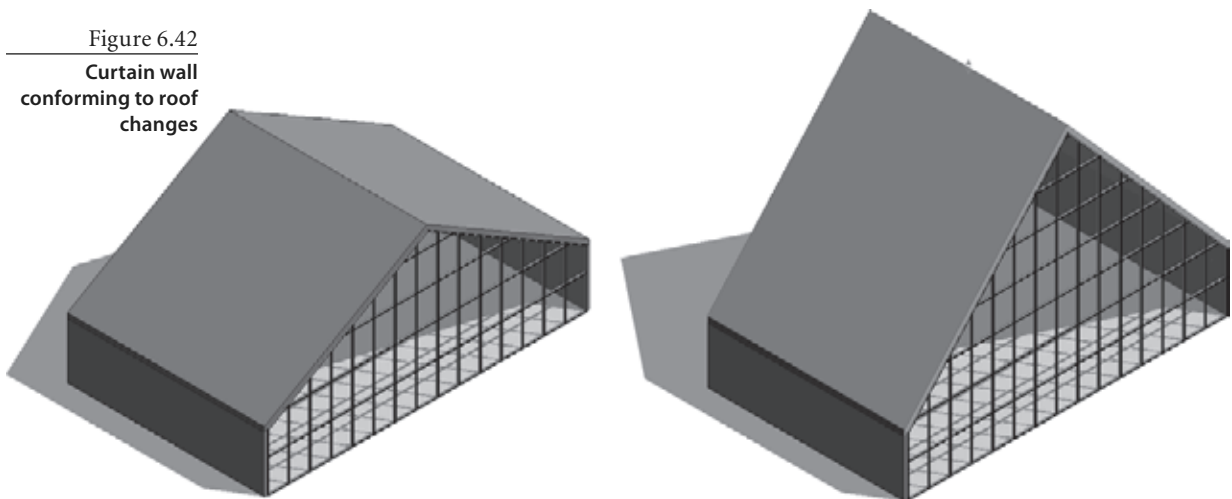

Figure 6.42
1. Draw four generic walls on Level 1, similar to the ones shown in Figure 6.42.
7. Select the roof and drag the blue arrow on the top to make the roof pitch higher. The curtain wall automatically readjust its size and shape to accommodate the change, as shown in Figure 6.42.